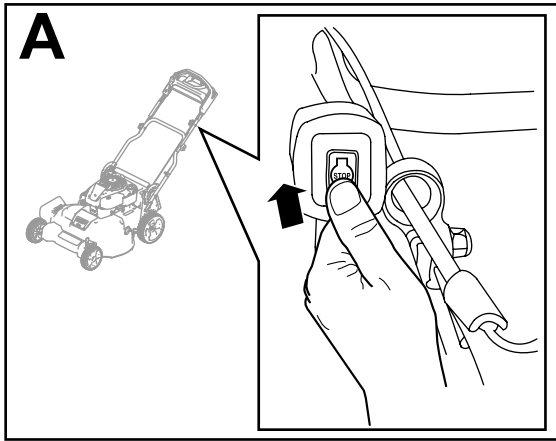

Figure 18
1. Turn the ignition key to the OFF position (A of Figure 18).
2. When the engine shuts off, remove the ignition key and take it with you when you leave the machine (B of Figure 18).